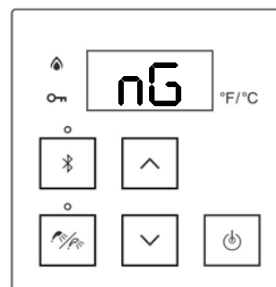

Figure 50:
2. Press the “Priority” button. The controller displays “nG” (natural gas) (Figure 50).